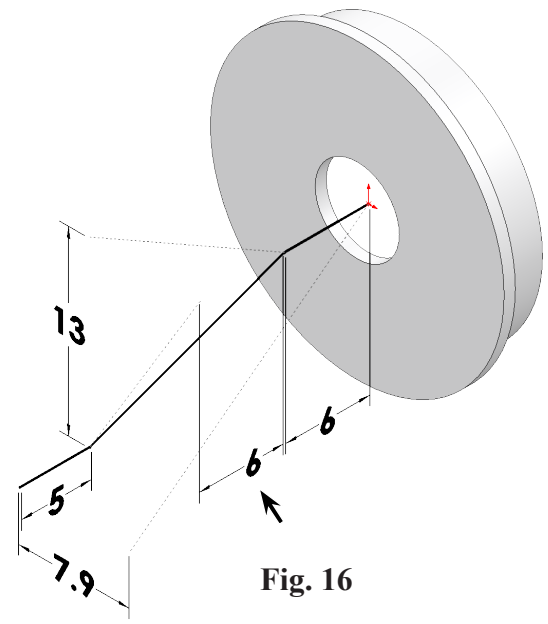

Fig. 16
To **dimension the 6**, click the angled line and press **Tab key 3 times** to dimension along the **Z**  axis, **Fig. 16**. Click to place dimension.